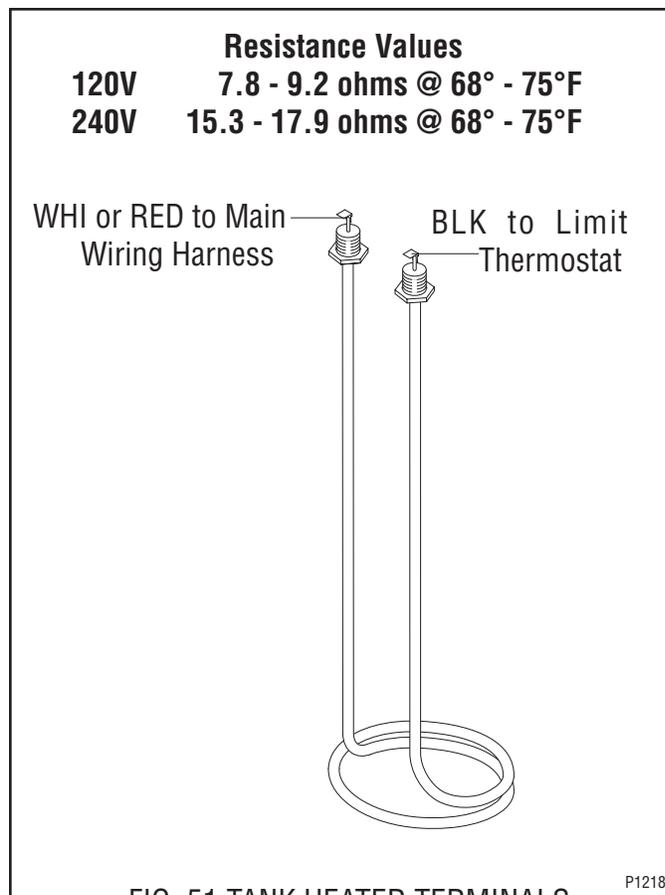

FIG. 51 TANK HEATER TERMINALS
15. Refer to Fig. 51 when reconnecting the wires to the tank heater.